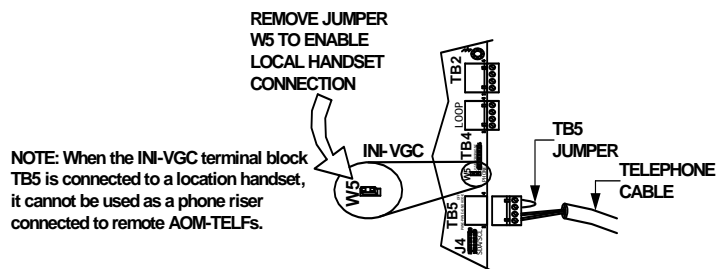

Figure 3.2.7.1 Fire Fighter's Intercom Handset Connections
5. Remove INI-VGC jumper W5 to enable the local handset connection, see Figure 3.2.7.1